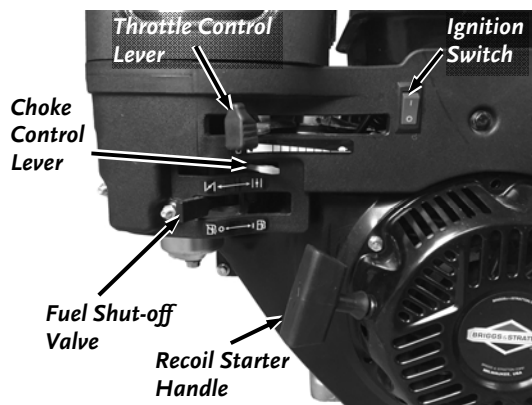
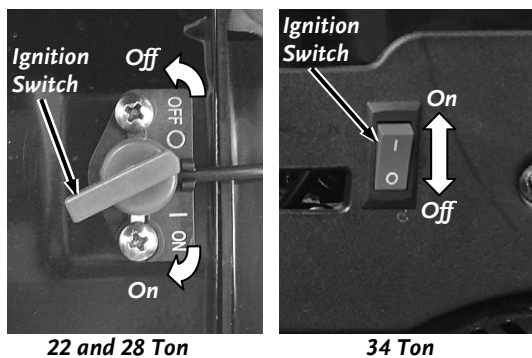

Figure 36
Figure 37
4. Make sure the Engine is in the “OFF” position (refer to Figure 37) and disconnect the spark plug wire from the spark plug. Prime the pump by pulling the recoil starter handle (refer to Figure 36) as far as it will go. Repeat approximately 10 times.
2. Make sure the fuel shut-off valve is in the “ON” position (**Figure 36**).
5. Turn the Ignition Switch to the “On” position (**Figure 37**). Grasp the recoil starter handle and slowly pull until you feel resistance (**Figure 36**). Let the cord retract a little bit then pull the cord rapidly to start the engine. One or two pulls usually starts the engine.
6. Move the choke control lever (if used for cold engine) slowly back to the OPEN position (to the right) when the engine is running well (**Figure 36**).
1. Move the Throttle Lever to Idle  position (**Figure 36**).
1. Turn the Ignition Switch to the “Off” position (**Figure 37**).